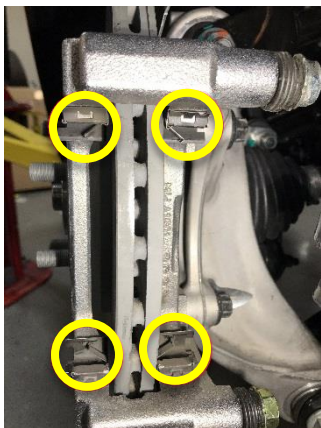

Figure 23 (Model 3 abutment springs)
30. Install new abutment springs/clips or shims (as applicable) into the rear LH carrier (Figures 23 and 24).